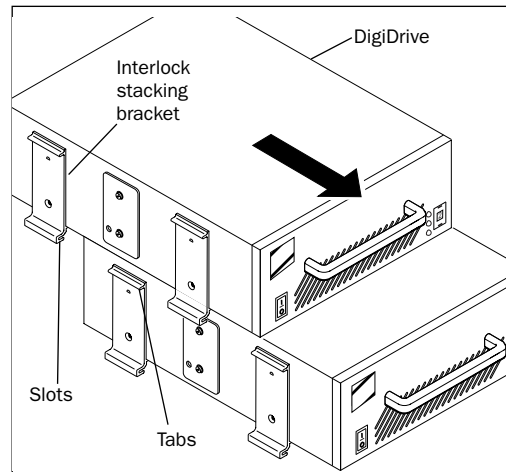

Figure 4. Stacking the DigiDrive
- 3 Slide the top DigiDrive forward so the slots in the four top drive interlock stacking brackets slide over the four tabs on the bottom drive interlock stacking brackets (see Figure 4).